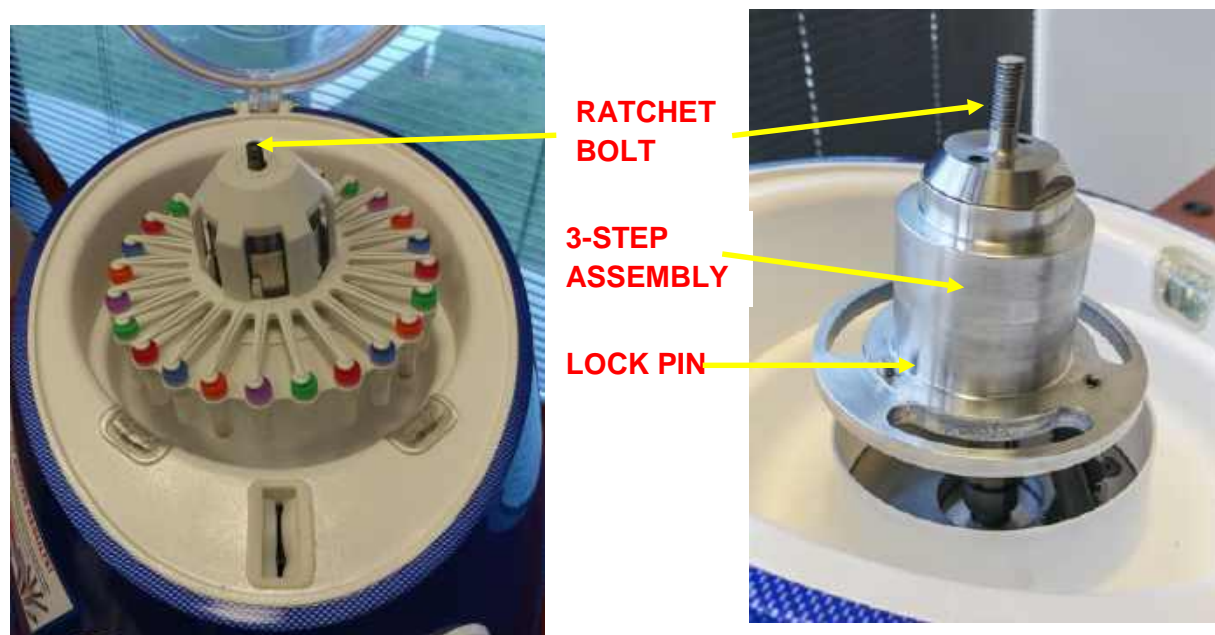
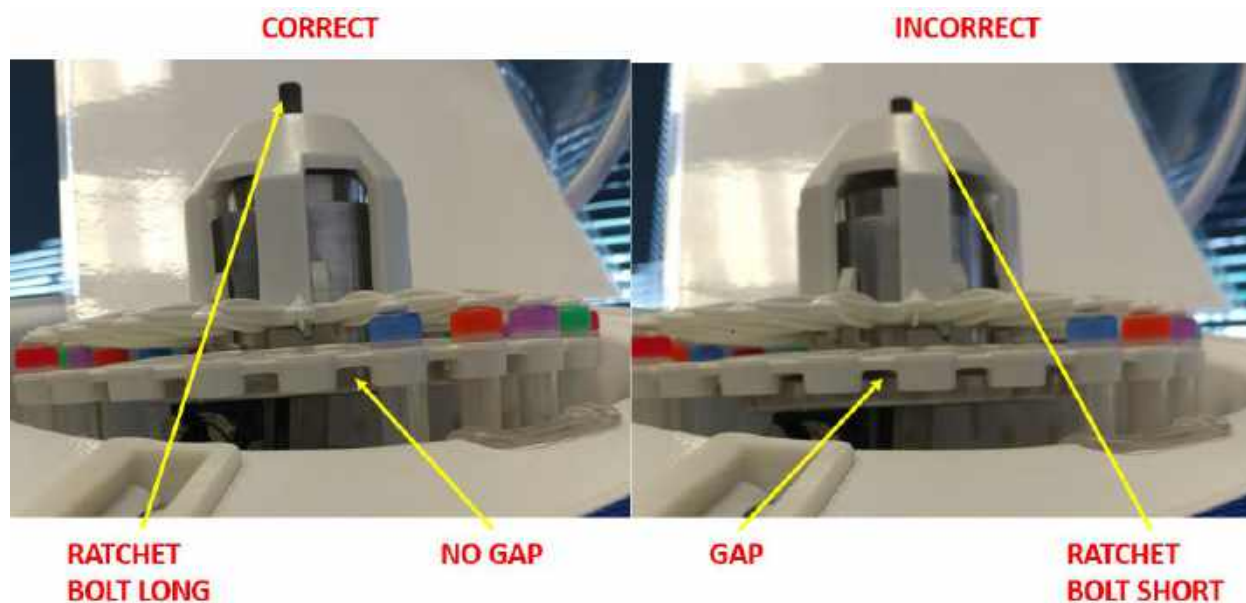

Figure IV-5: Adaptor Placement
Figure IV-6: Rotate Adaptor until Seated
11. When all the sample tubes have been loaded, place the 'Adaptor' back into the FastPrep-24™ 5G. Align the locking pin of the 'Three Step Assembly' with an alignment hole under the 'Adaptor', ensuring its proper placement \(Figure IV-5\). **Rotate the 'Adaptor' on the '3-Step Assembly' until the locking pin engages, no more than $\frac{1}{3}$ turn, and the adaptor will drop down on the pin ~5 mm \(Figure IV-6\).**
Refer to \(Figure IV-2\) and \(Figure IV-5\) for views of 'Alignment Holes' 'Three Step Assembly' and 'Locking Pin.'
22. Rotate the 'Cam Lock', in the unlocked position, counter-clockwise to loosen until the threads disengage (Figure IV-16). Remove 'Cam Lock' from device (Figure IV-5).